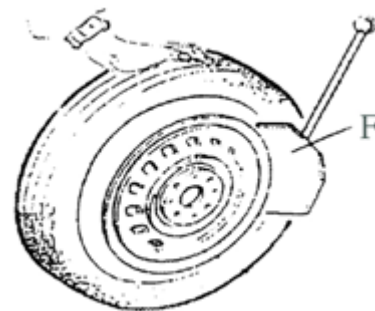

Fig 5
Ensure to exhaust the air in the tyre completely, place the tyre against the rubber buffer (S). Bring the paddle against the bead about 10mm from the edge of the rim shown as **Fig 5**. Tread Bead breaker Pedal (U) to push paddle into tyre. Repeat the above operations on different positions around the tyre and both sides of tyre until tyre bead is released completely.